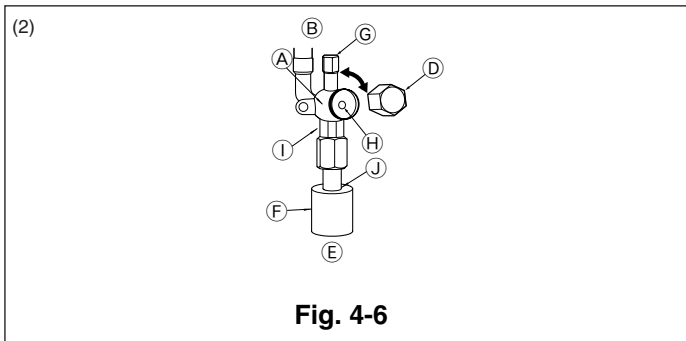

Fig. 4-6
- Liquid side of HA36. (Fig. 4-6)